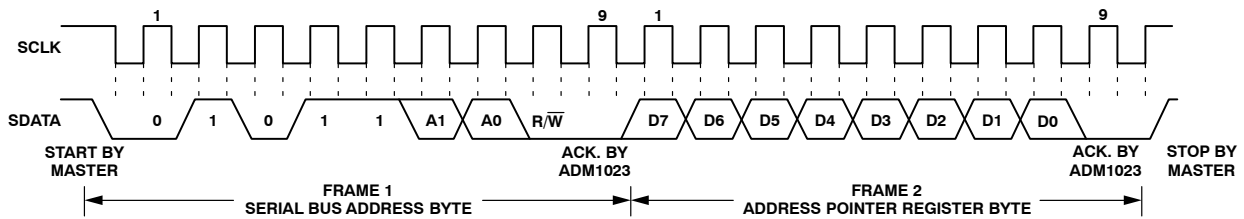

Figure 16. Writing to the Address Pointer Register Only
1. If the ADM1023's address pointer register value is unknown or not the desired value, it is necessary to set it to the correct value before data can be read from the desired data register. This is done by performing a write to the ADM1023 as before, but only the data byte containing the register read address is sent, as data is not to be written to the register. This is shown in Figure 16. A read operation is then performed consisting of the serial bus address, R/\bar{W} bit set to 1, followed